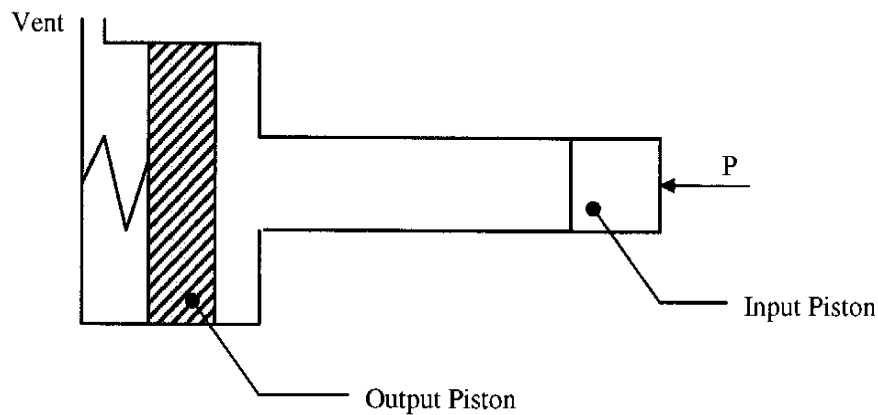

Fig Q9
9. A hydraulic control piston is shown in Fig Q9. The input piston of 20 mm diameter is displaced by the input force P . The system is filled with an incompressible liquid and the movement of the 80 mm diameter output piston is resisted by a spring of stiffness 60 kN/m.